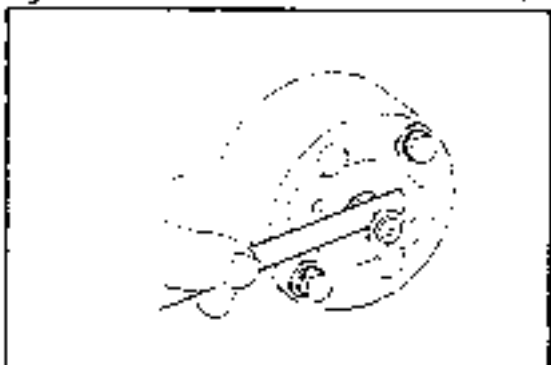

Fig. 10-42
- (1) Connect the battery to the magnetic switch as shown in Fig. 10-42